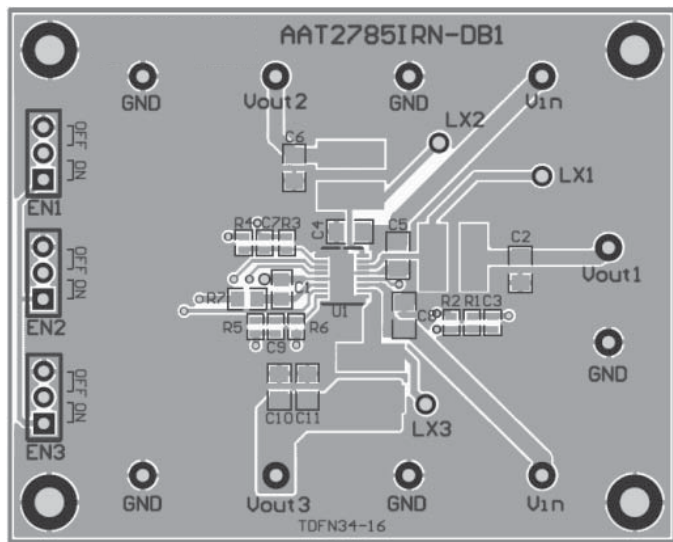

Figure 2: AAT2785 Evaluation Board Component Side Layout.
The term $\frac{V_O}{V_{IN}} \cdot \left(1 - \frac{V_O}{V_{IN}}\right)$ appears in both the input voltage ripple and input capacitor RMS current equations and is at a maximum when V_O is twice V_{IN} . This is why the input voltage ripple and the input capacitor RMS current ripple are a maximum at 50% duty cycle. The input capacitor provides a low impedance loop for the edges of pulsed current drawn by the AAT2785. Low ESR/ESL X7R and X5R ceramic capacitors are ideal for this function. To minimize stray inductance, the capacitor should be placed as closely as possible to the IC. This keeps the high frequency content of the input current localized, minimizing EMI and input voltage ripple. The proper placement of the input capacitor (C_1) can be seen in the evaluation board layout in the Layout section of this datasheet (see Figure 2). A laboratory test set-up typically consists of two long wires running from the bench power supply to the evaluation board input voltage pins. The inductance of these wires, along with the low-ESR ceramic input capacitor, can create a high Q network that may affect converter performance. This problem often becomes apparent in the form of excessive ringing in the output voltage during load transients. Errors in the loop phase and gain measurements can also result. Since the inductance of a short PCB trace feeding the input voltage is significantly lower than the power leads from the bench power supply, most applications do not exhibit this problem. In applications where the input power source lead inductance cannot be reduced to a level that does not affect the converter performance, a high ESR tantalum or
The suggested PCB layout for the AAT2785 is shown in Figures 2 and 3. The following guidelines should be used to help ensure a proper layout.
1. The power input capacitors (C5 and C8) should be connected as closely as possible to VP1_2, VP3 and PGND1,2,3 as shown in Figure 2. Due to the pin placement of VP1_2 and VP3 for all converters, proper decoupling is not possible with just one input capacitor.